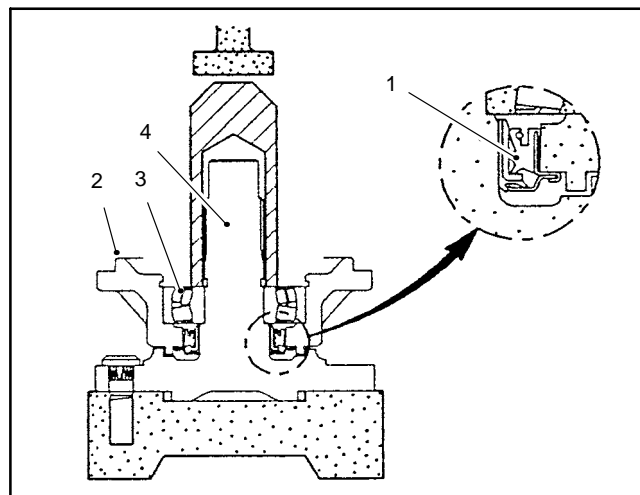

Figure 26
1. Coat new axle shaft seal with grease and install in axle cover as shown (Fig. 26).
2. Press the axle cover and bearing assembly onto the axle shaft. Press only on the inner race of the cover bearing (Fig. 26).